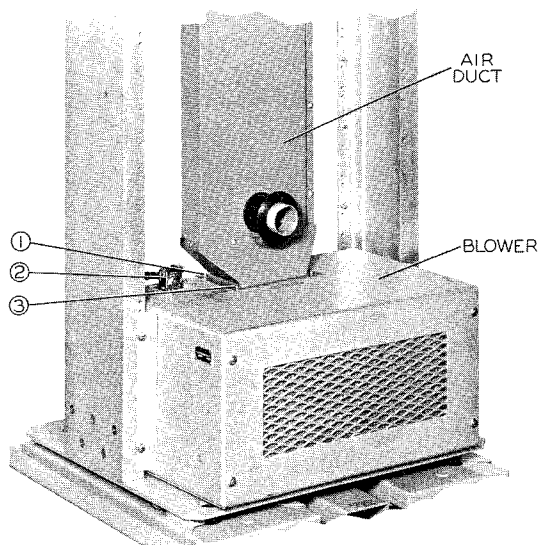

Figure 2-1. Rack Mounting of Electronic Equipment Air Cooler HD-347/U
(2) Remove all units from the rack except Interconnecting Box J1007/U, Electronic Equipment Air Cooler HD-347/U and adjoining duct work, and Power Supply PP-2153/U. Start with Radio Frequency Amplifier AM-2061/URT and work down the rack. To each unit, remove the screws that fasten the right side of the unit to the rack, swing the unit out on its hinge, disconnect the electrical connectors, and remove the two screws that fasten the unit hinge to the rack.
(3) Remove the cover from Power Supply PP-2153/U by pressing on the thumb-release fasteners. Loosen the four screws that fasten the left side to the rack (do not remove these screws). Remove from the rack by removing the four screws that fasten the right side to the rack. The high-voltage power supply weighs 93 pounds, so it should be blocked up or held up by a second person when the screws are removed.
(4) Disconnect the coaxial connector from J1 on the rear of the power supply, and remove the cover from terminal board TB1; then disconnect the multiwire cable from TB1, and record the wire color code and terminal number. Remove cable clamp. (Clamp is fastened with nut and washer inside unit.)
(5) Refer to figure 2-1. Disconnect plug (item 2) from J1 on Electronic Equipment Air Cooler HD-347/U (blower), remove the two screws (item 3) that fasten the front of the air duct to the unit. Loosen the two screws (item 1) that fasten the rear of the aid duct to the HD-347/U, slide air duct forward, and remove the two screws.